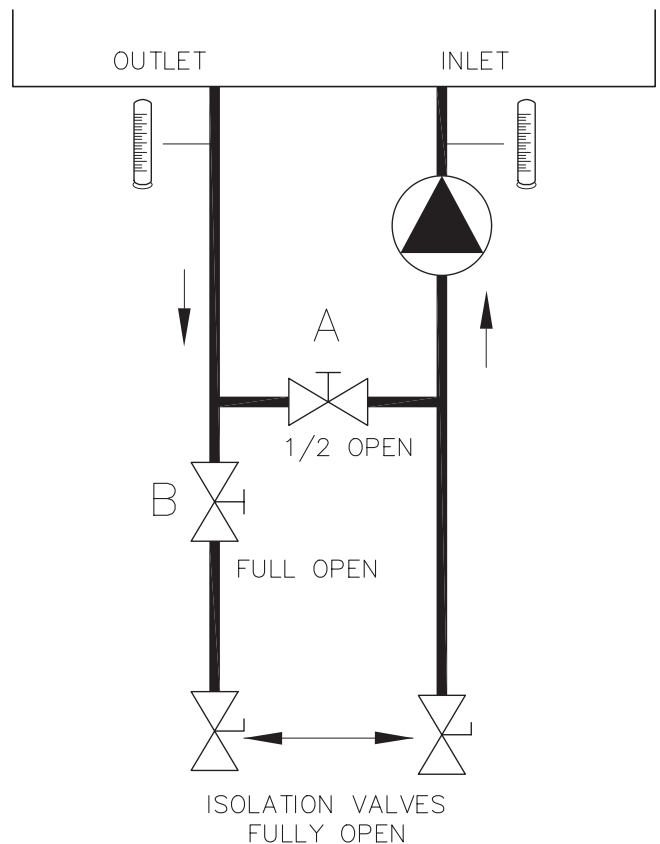

Fig. 16: "H" Bypass Setting
Heaters operated with an inlet temperature of less than 120°F (49°C) MUST have a manual bypass (see Fig. 16) or an approved low-temperature operation system (Figs. 9 and 10) to prevent problems with condensation. This piping is similar to a primary/secondary boiler installation with a bypass acting as the secondary boiler piping. Raypak strongly recommends that thermometer(s) be placed into the heater piping next to the in/out header to facilitate temperature adjustment. Inlet water temperatures below 120°F (49°C) can excessively cool the products of combustion, resulting in collection of condensate in the heat exchanger area beyond the capacity of the condensate evaporation system.
Three-way valves intended to regulate system water temperatures by reducing flow in the boiler should not be used. Raypak heaters are high-recovery, low-mass heaters which are not subject to thermal shock. See Fig. 16 and instructions on page 17 for adjusting the manual bypass.
3. With the heater operating at 100% firing rate, set Valve A (the bypass) to ½ open position, and Valve B to fully open position. See Fig. 16.